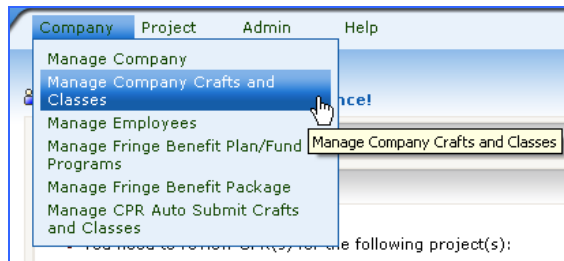
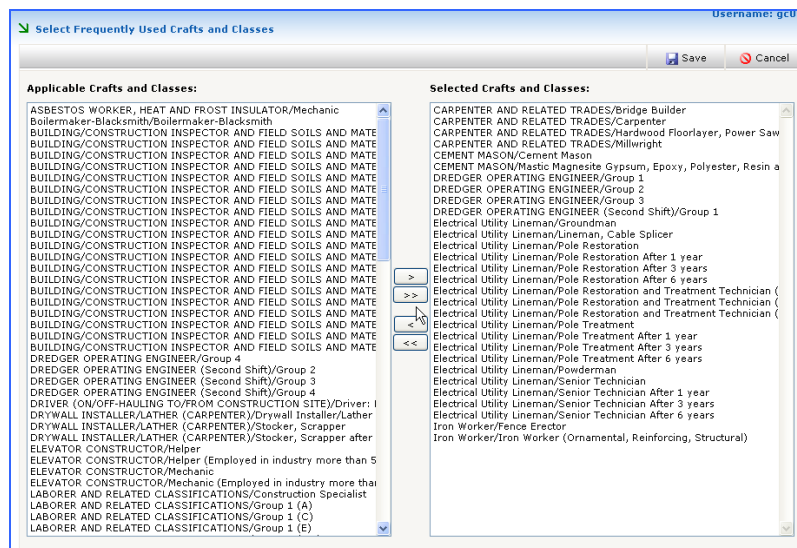

Figure 34 - Select Crafts & Classes Menu
Figure 35 - Select Company Crafts
1. From the Company menu, click on the “Manage Company Classes and Crafts” option (Figure 34). This will direct your web browser to the Select Frequently Used Crafts and Classes screen (Figure 35).